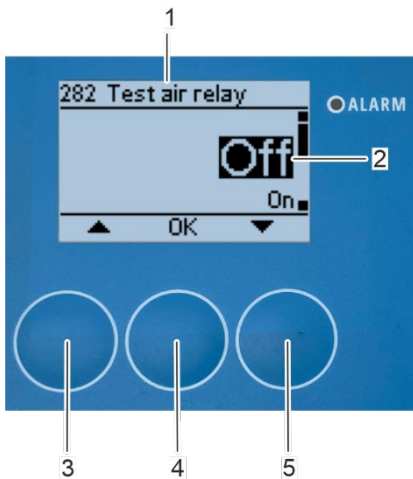

Fig. 147: Switch off compressed air relay
⇒ The "282 Test air relay" submenu (Fig. 147/1) appears on the display.
6. Select "Off" (Fig. 147/2) with the arrow keys [up] (Fig. 147/3) and [down] (Fig. 147/5).
7. Confirm the selection with [OK] (Fig. 147/4).